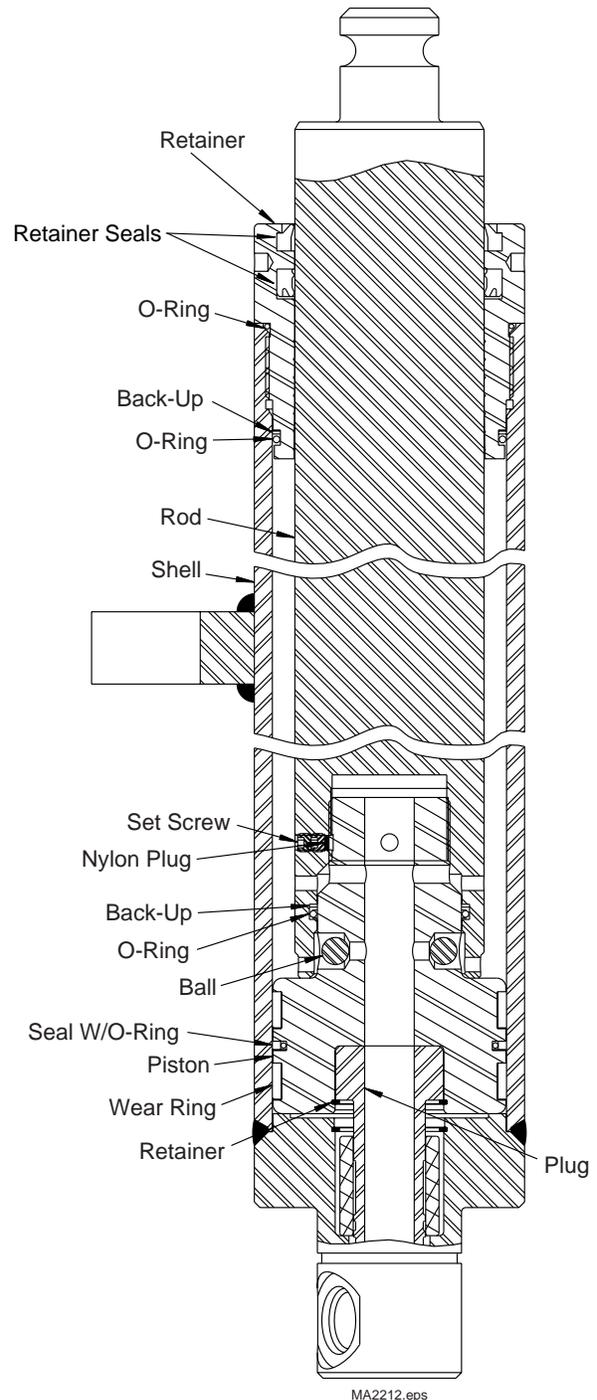

Figure 18A
2. Lubricate and install wear ring onto the piston rod. Refer to figure 18A.